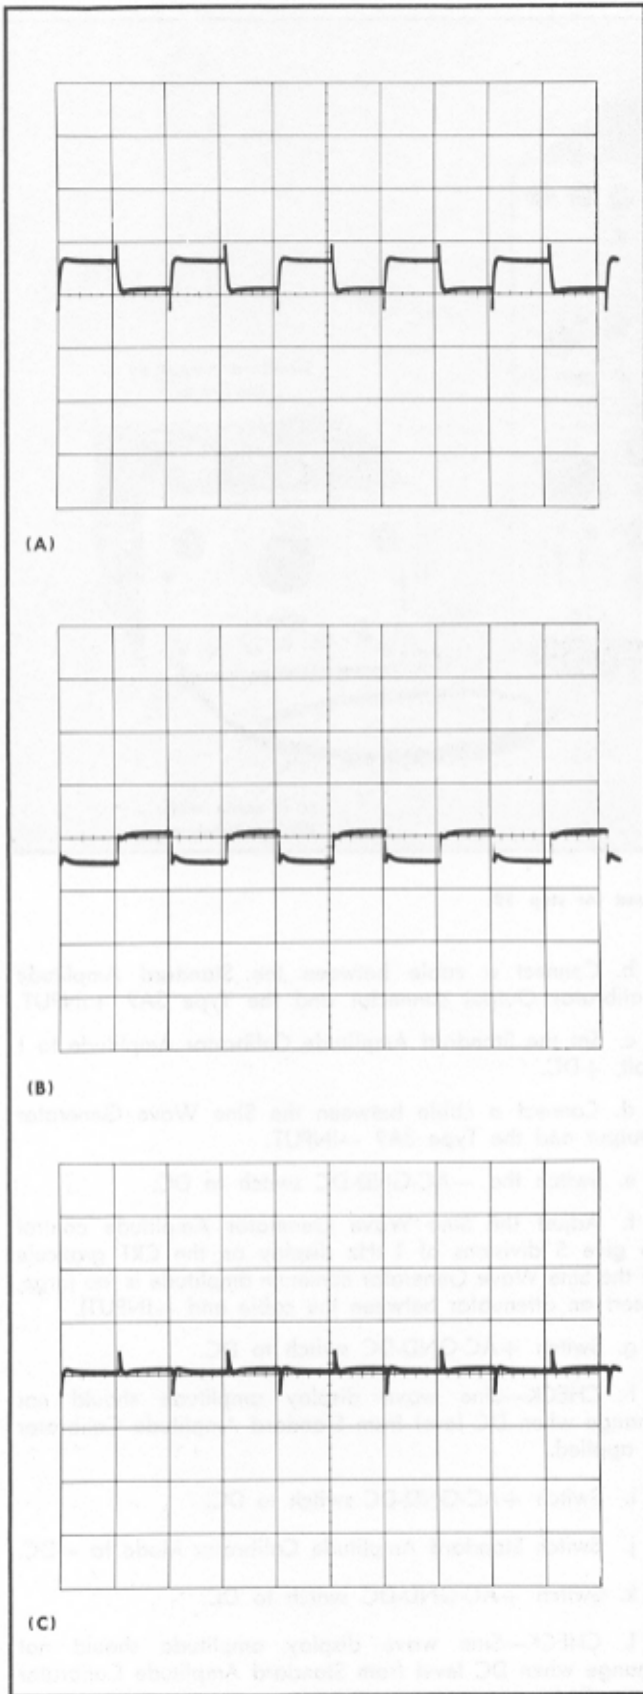

Fig. 5-19. Typical waveforms showing (A) and (B) R205E mis-adjusted and (C) R205E correctly adjusted.
- f. CHECK—For optimum differential (minimum display amplitude) balance as shown in Fig. 5-19, (disregard any spikes on the waveform) for each of the switch positions shown in Table 5-4.